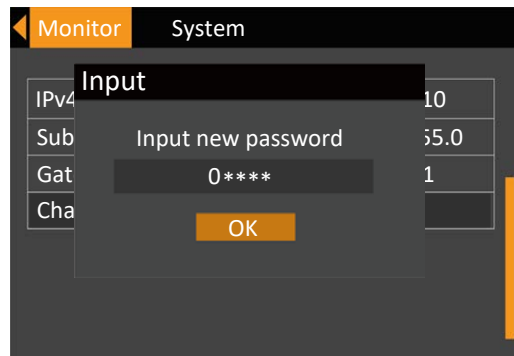

Figure 5-23 Inputting new password
4. Input the existing password, press the key to confirm it, then the system requires to input a new password. See Figure 5-23.